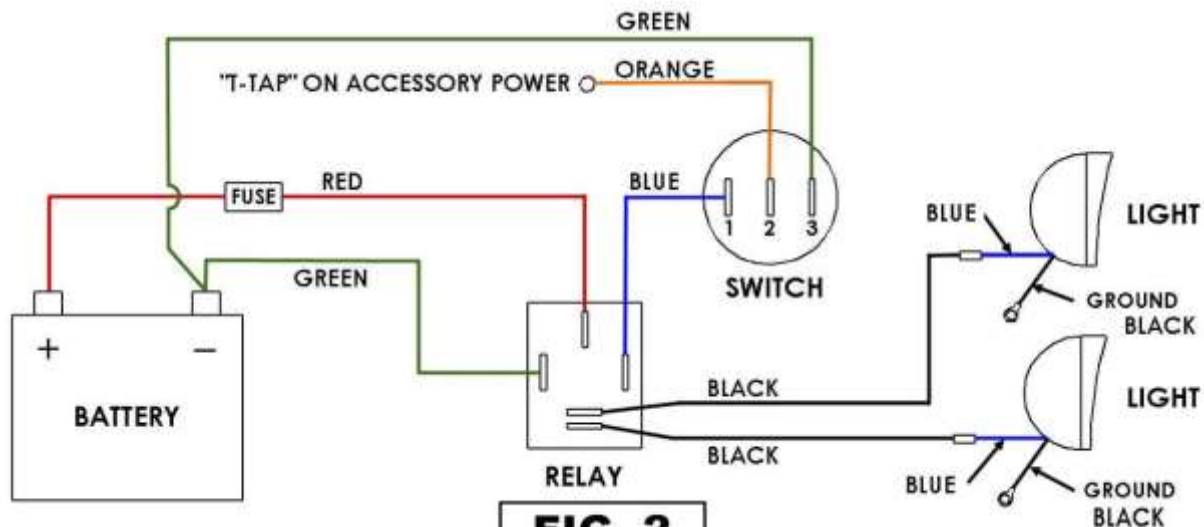

FIG. 2
11. INSTALL EACH OEM TURN SIGNAL (K) ONTO THE TURN SIGNAL ADAPTER (L) ROUTING THE WIRES THROUGH THE HOLE IN THE INSERT. USE THE NUT REMOVED IN STEP 10 TO ATTACH THE TURN SIGNAL TO THE TURN SIGNAL ADAPTER.
12. ROUTE THE OEM TURN SIGNAL WIRES AND LED LIGHT WIRES THROUGH THE LIGHT BAR (G).
13. THE TURN SIGNAL ADAPTER (L) WITH OEM TURN SIGNAL (K) CAN BE POSITIONED INTO THE LOWER ENDS OF THE LIGHT BAR (G) AND SECURED WITH THE SET SCREWS (N) THE SHORT SET SCREWS GO IN THE BACK HOLES. THERE ARE THREE SET SCREWS ON EACH SIDE.
14. USING THE M6 - 1.0 X 16MM LONG BUTTON SOCKET HEAD CAP SCREWS (B) AND LOCK WASHERS PROVIDED INSTALL THE LIGHT BAR (G) TO THE MOUNTING PLATE (E). TIGHTEN SECURELY WITH A 4MM ALLEN WRENCH.
15. RE-ROUTE THE TURN SIGNAL (K) WIRES. WIRE INTO THE HEADLIGHT HOUSING AND RE-CONNECT AS THEY WERE. MAY HAVE TO ADD LENGTH TO THE WIRES.
16. LOCATE YOUR BIKE'S BATTERY, FUSE BLOCK, AND/OR ACCESSORY TERMINALS AND WIRE ACCORDING TO FIG. 2.